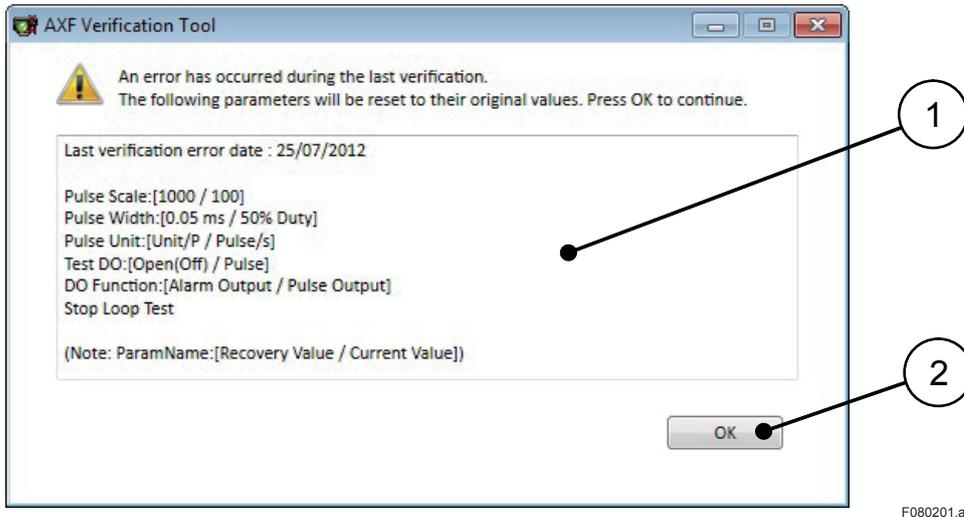

Figure 8.2.1 “Error Recovery” Dialog
- 1) When an unexpected termination occurs, be sure to re-connect FieldMate and AXF, and reboot Verification Tool. If the AXF parameters have been changed from the original setting, **Figure 8.2.1 “Error Recovery” Dialog** is displayed after reboot.